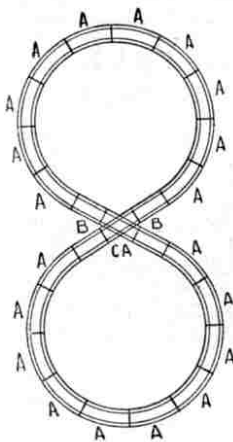

Fig. 8
Now let us suppose that we have become tired of a simple circle or oval track and are considering methods of developing our layout. Perhaps the simplest scheme is that shown in Fig. 8. Here the only new element is the Acute-angle Crossing (CA), but its use certainly produces a layout of much greater interest. Using the 2 ft. radius rails, 20 Curved Rails (A2) and 4 Straight Rails (B1) are required, in addition to the Acute-angle Crossing (CA). With 1 ft. radius rails, 10 Curved Rails (A1) and 4 Straight Quarter Rails (B½) are needed. The four Quarter Rails occupy the same position as the four Straight Rails (B) in the diagram.